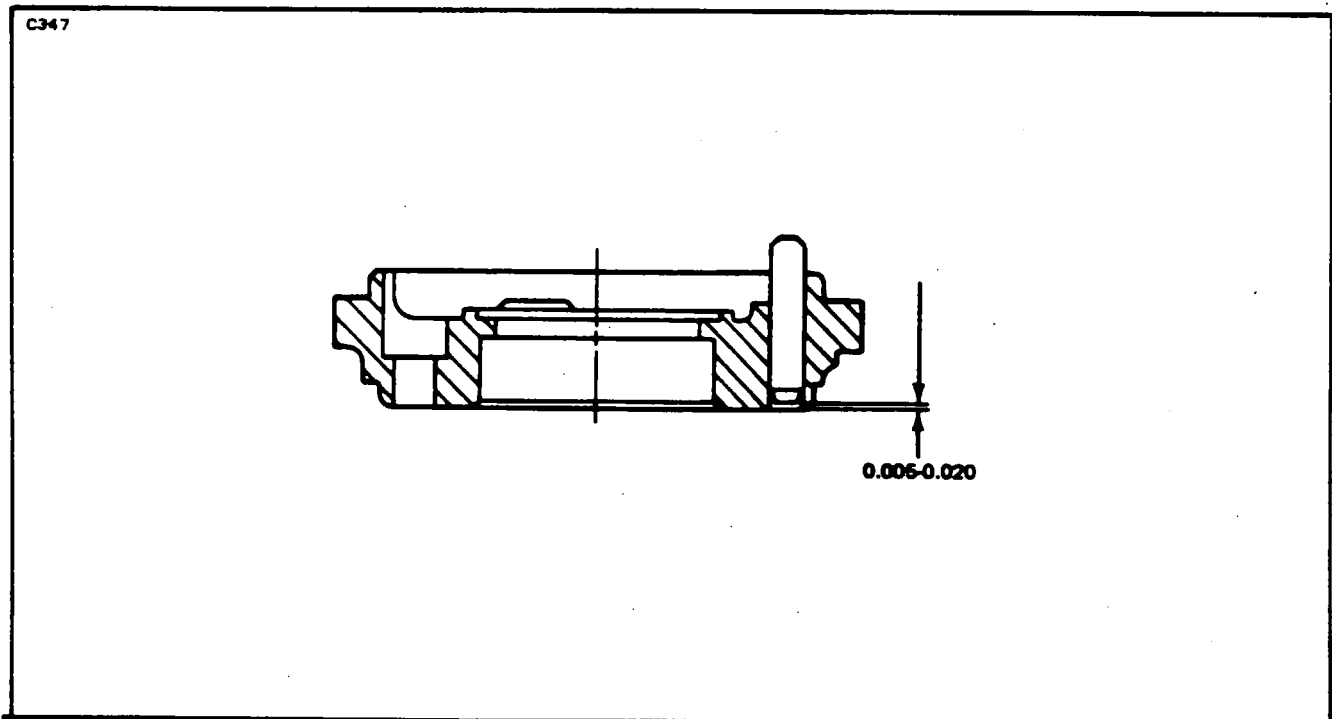

Figure 74-12. Stop Pin Installation Dimension
2. Inspect impulse coupling stop pins for damage. If pins are bent, damaged or excessively worn, remove pins using a suitable drift and arbor press. Press new pins into flange until dimension shown in Figure 74-12 is obtained.